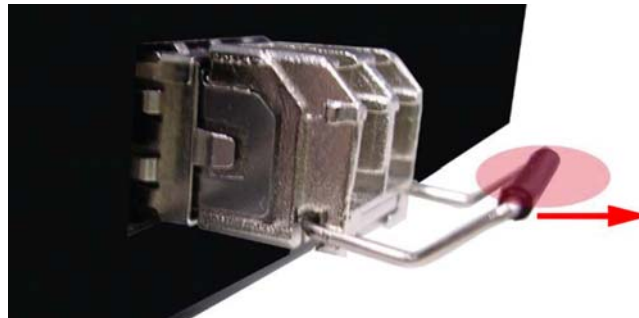

Figure 11. Pull Out from the SFP Module
2. Push down the metal clasp and pull the transceiver out by the plastic part as shown in figure 11.